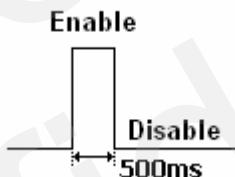
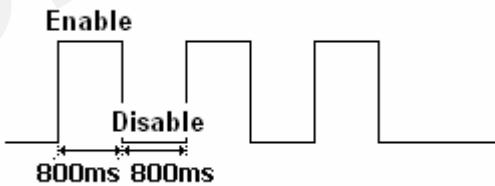

Figure 3: Wave Shape 2
Figure 4: Wave Shape 3
- ✧ <*Duration*>: Please refer to **Figure 2**, **Figure 3** and **Figure 4**. Unit is 100ms.
- ✧ <*Toggle Times*>: Please refer to **Figure 2**, **Figure 3** and **Figure 4**.